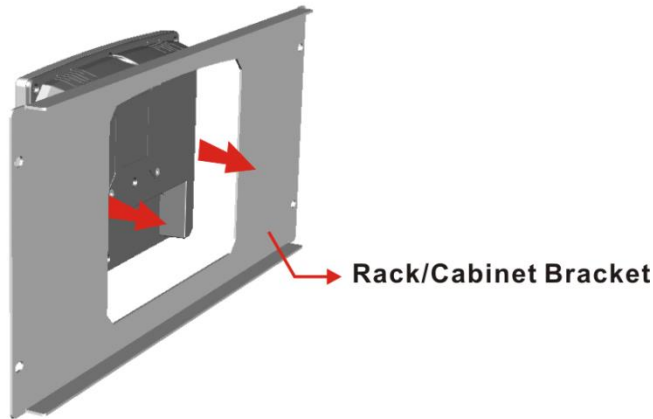

Figure 3-14: Rack/Cabinet Bracket Installation
- Step 1:** Slide the rear chassis of the AFL3-W07A-AL2 flat bezel panel PC through the rack/cabinet bracket until the frame is flush against the front of the bracket (Figure 3-14).